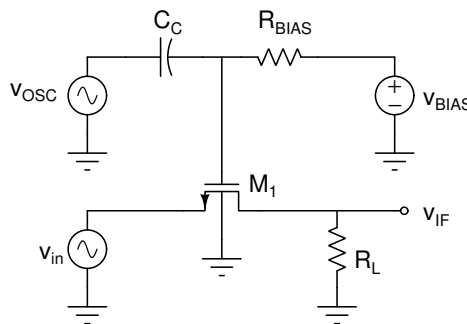

Figure 2
As shown in Fig. 2, a simple MOSFET can be used as a switch (mixer), where the oscillator signal is applied to the gate of the device, input is applied at the source and the intermediate frequency output is taken at the drain end.
- As shown in Fig. 2, implement the mixer using an NMOS in LTSpice. Clearly mention the values of  $R_{BIAS}$ ,  $C_C$ . Consider  $R_L = 1\text{ k}\Omega$ , amplitude of  $v_{in}$  is 100 mV and frequency is  $f_{IN}$ . Show transient plots of  $v_{in}$ ,  $v_{IF}$  for  $f_{IN} = \{95, 98\text{ kHz}, 99\text{ kHz}, 101\text{ kHz}, 102, 105\text{ kHz}\}$ . Also show corresponding FFT plots for  $v_{IF}$ .